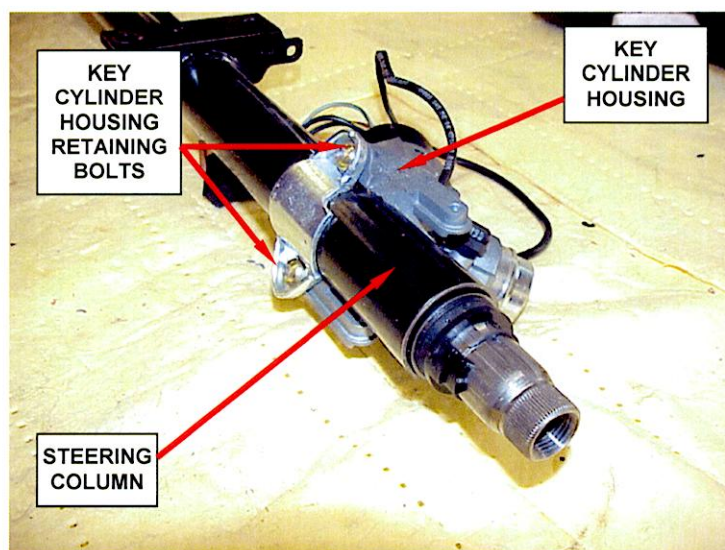

Figure 3
20. Drill the heads off the key cylinder housing retaining bolts (Figure 3).